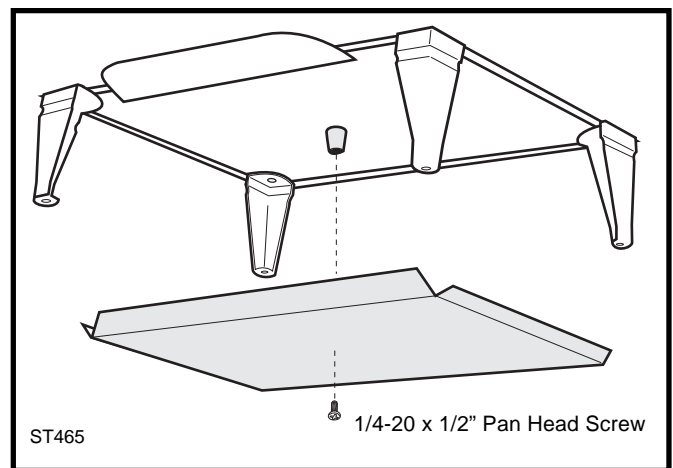

Fig. 23 Attach the Bottom Heat Shield to the boss in the center of the stove bottom.
1. Remove the 1/4-20x 1/2" phillips screw from the central mounting boss in the stove bottom. (Fig. 23)